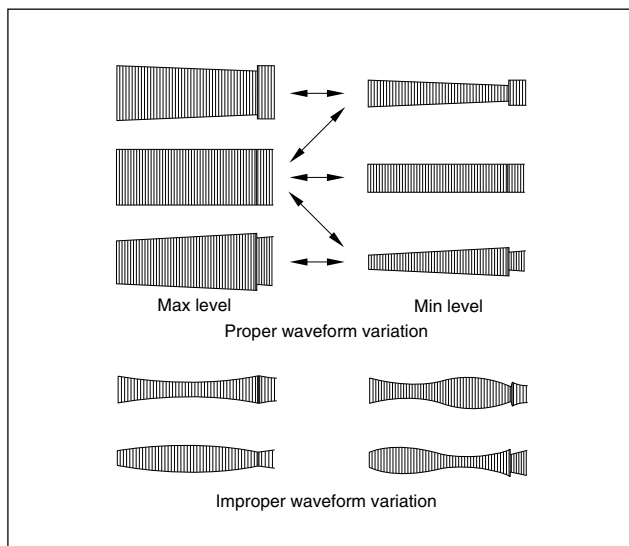

Fig. 2-5-1a
- (1) Play back the alignment tape (A1).
- (2) Apply the external trigger signal to D.FF (E), to observe the V.PB FM waveform at the measuring point (D).
- (3) Set the VCR to the manual tracking mode.
- (4) Make sure that there is no significant level drop of the V.PB FM waveform caused by the tracking operation, with its generally parallel and linear variation ensured. Perform the following adjustments when required. (See Fig. 2-5-1a.)